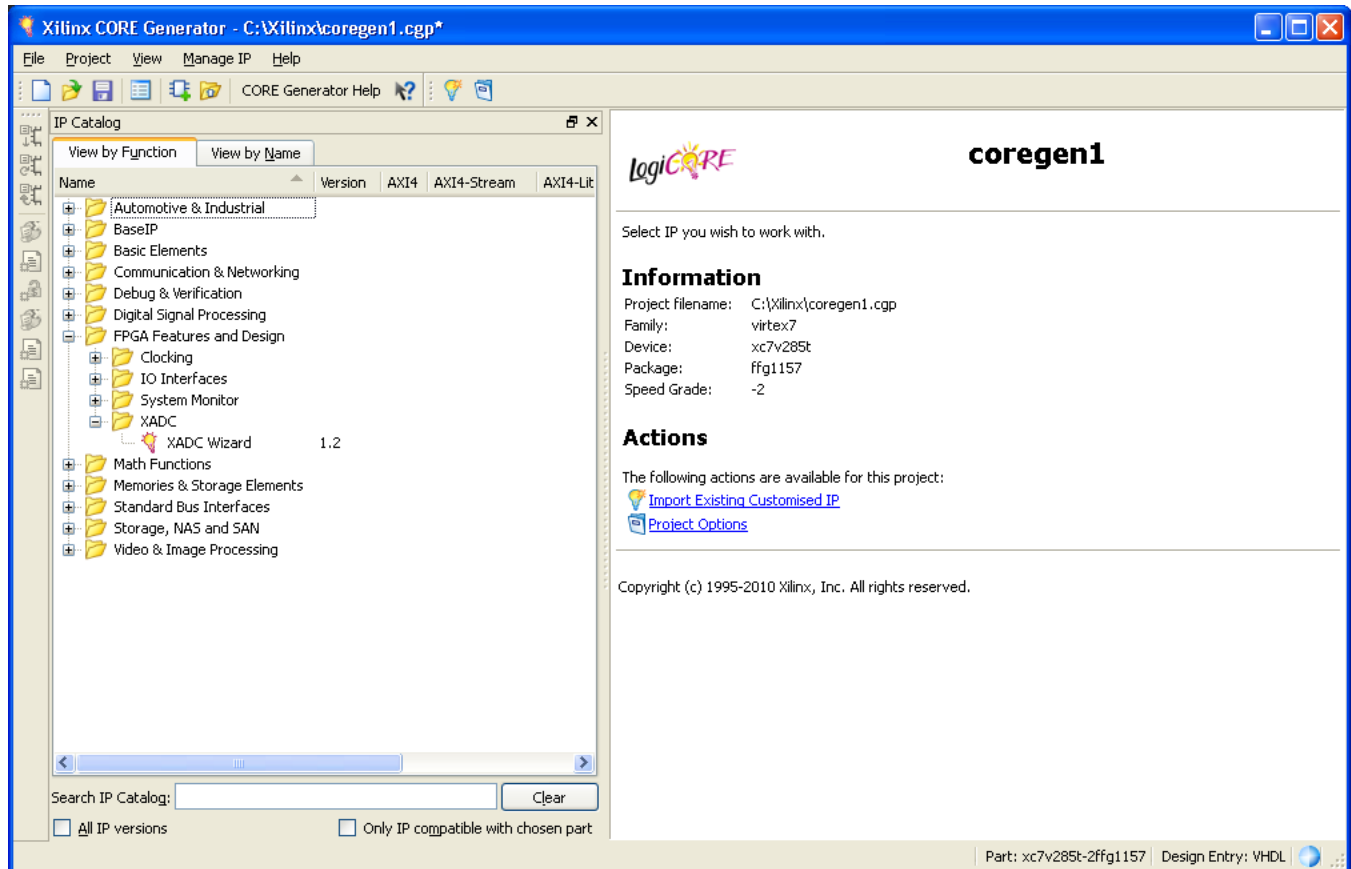

Figure 2-1: CORE Generator Window
2. After creating a new Virtex -7, or Kintex-7 family project or opening an existing one, the IP core functional categories appear at the left side of the window, as shown in Figure 2-1.